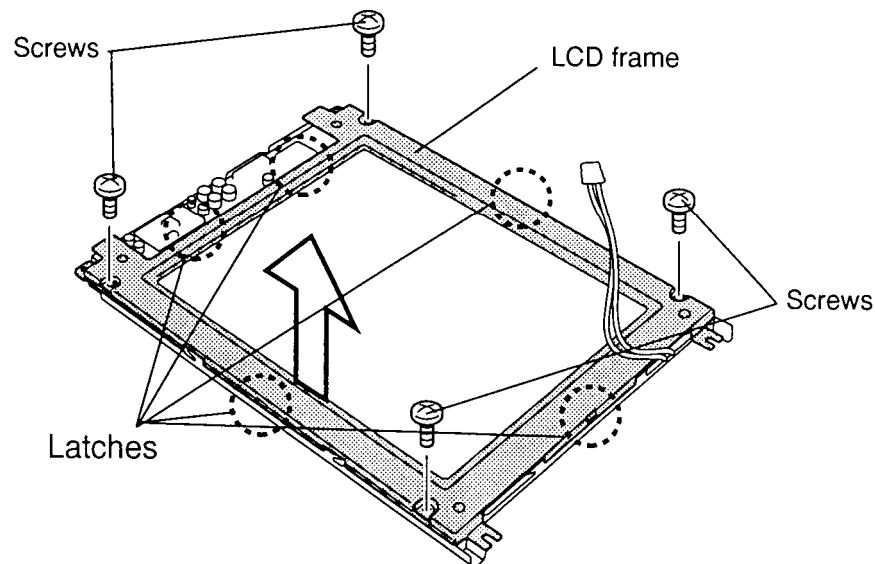

Figure 4-28 Removing the LCD Module Screws
To remove the T3600CT's FL, follow the steps below and refer to Figures 4-28 through 4-30.
3. Place the **LCD module** face down and remove the **four screws** (Figure 4-28).
4. Unsnap the **latches** securing the **LCD frame** to the LCD module (Figure 4-28).
To install the T3600CT's FL, follow the steps below and refer to Figures 4-28 through 4-30.